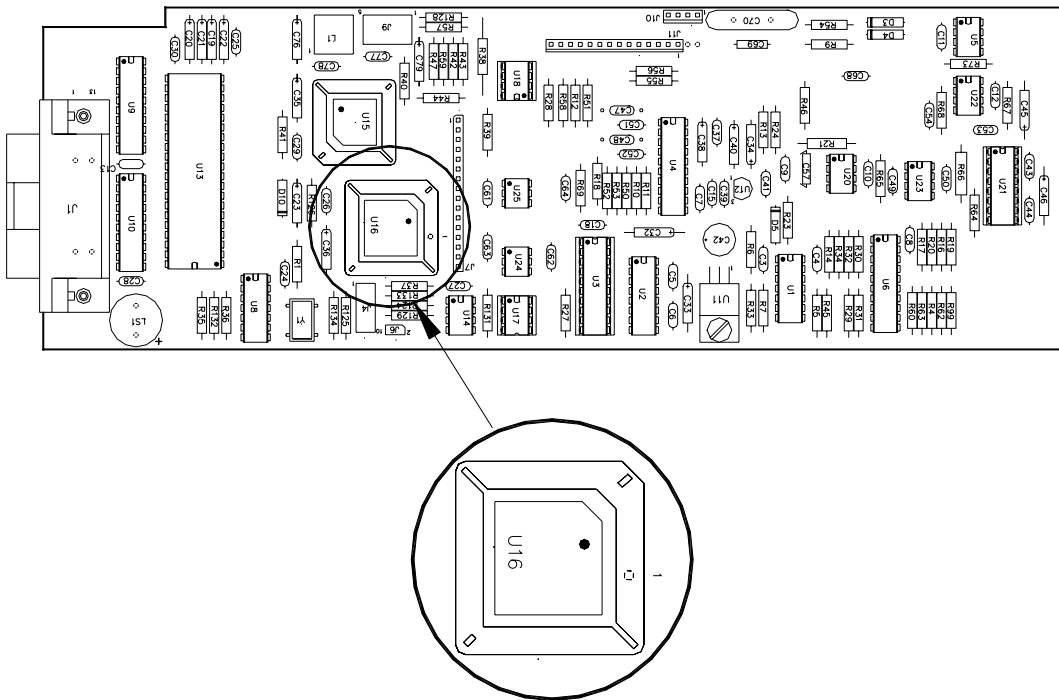

FIGURE 1. DIGITAL BOARD A7 PROM LOCATION
2.3 PROM REPLACEMENT PROCEDURE (SEE FIGURE 1)
1. Locate PROM, U16 on Digital board A7 (see Figure 1).
6. Insert the PROM into the socket, ensuring the dot is oriented as shown in Figure 1.